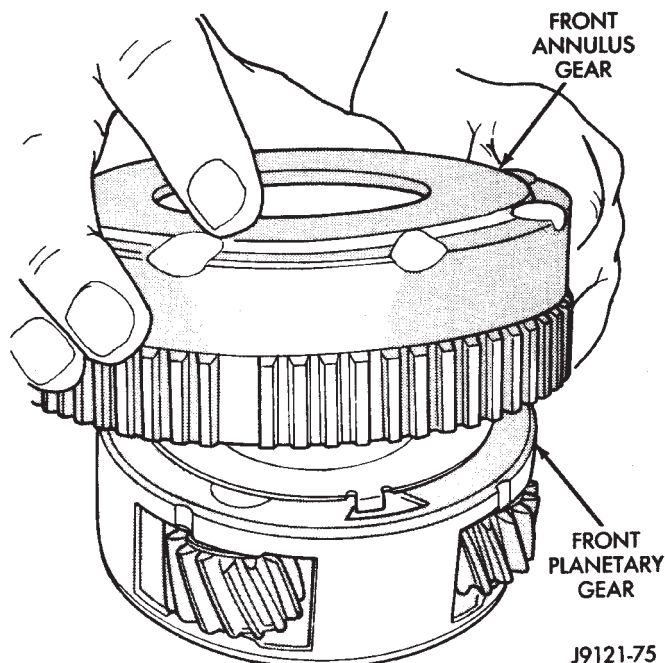

Fig. 86 Assembling Front Planetary And Annulus Gears—46RH
(11) Install front annulus gear over and onto front planetary gear (Fig. 86). Be sure gears are fully meshed and seated.